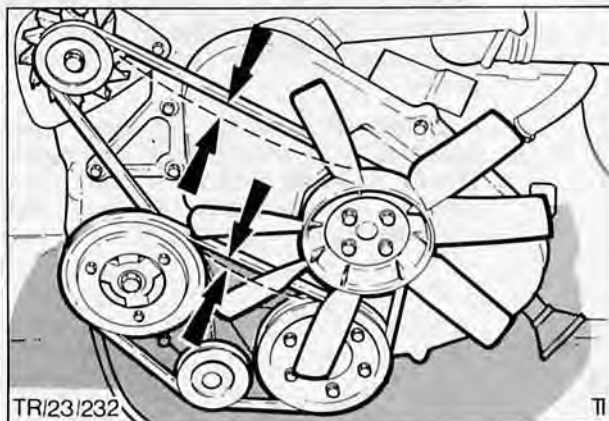

Fig. 54. Fan and drive belt adjustment
44. Position fan belt and vacuum pump drive belt. Adjust vacuum pump belt to give a 10 mm (0.4 in) free play on the longest span, Fig. 54.